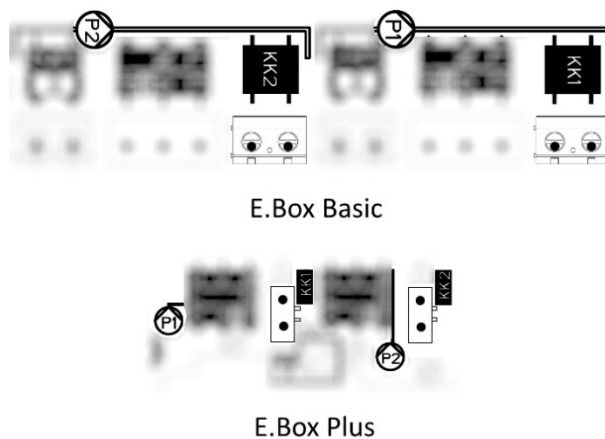

Figure 33: Thermal protection inputs KK
**Motor thermal protection:** the E.box has an input for the thermal protection of each motor. If the motor used is provided with thermal protection, this protection can be connected to the terminals KK. If the protection is not present in the motor, the terminals must be jumpered. For the position of the terminals, see Figure 33.